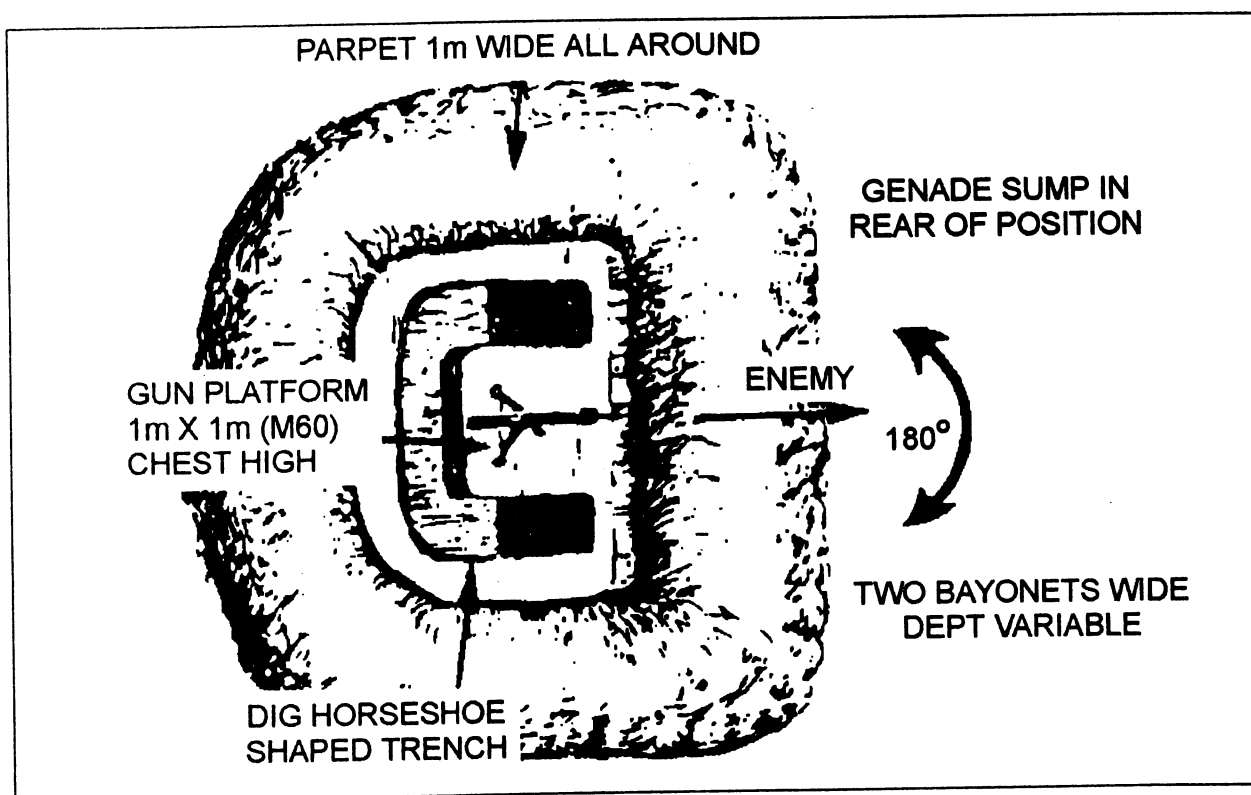

Fig 5-3. Horseshoe-shaped position.
c. Horseshoe-shaped position. The horseshoe-shaped fighting position allows easy 180 degree traverse across the front. Its disadvantages are that it provides less protection against indirect fire, and you can only engage the enemy to your front and flanks while you remain covered in the fighting hole (see fig 5-3).